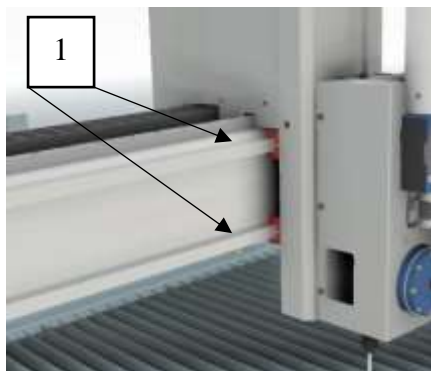

Fig.56: Y-axis
3. Grease the linear guides (Fig. 56 /1) of the Y-axis with light machine grease using a lint free cloth.